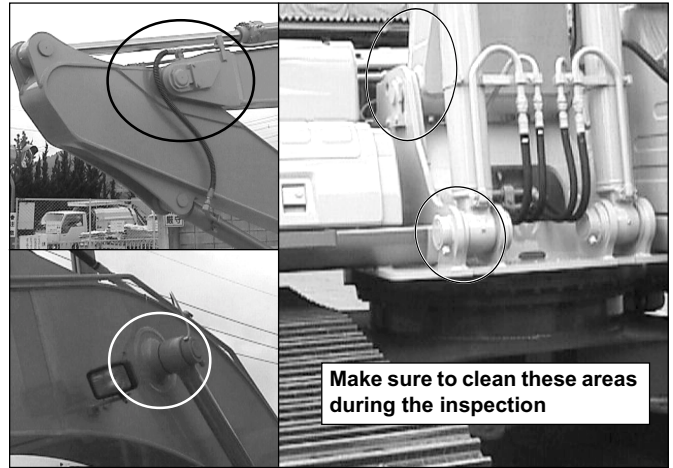

FIGURE 4.21A
1. Inspect Boom and Arm structures for signs of excessive wear and damage. See Figure 4.21A.
Remove any excessive grease form the attachment pin connecting areas to inspect welding. See Figure 4.21A.